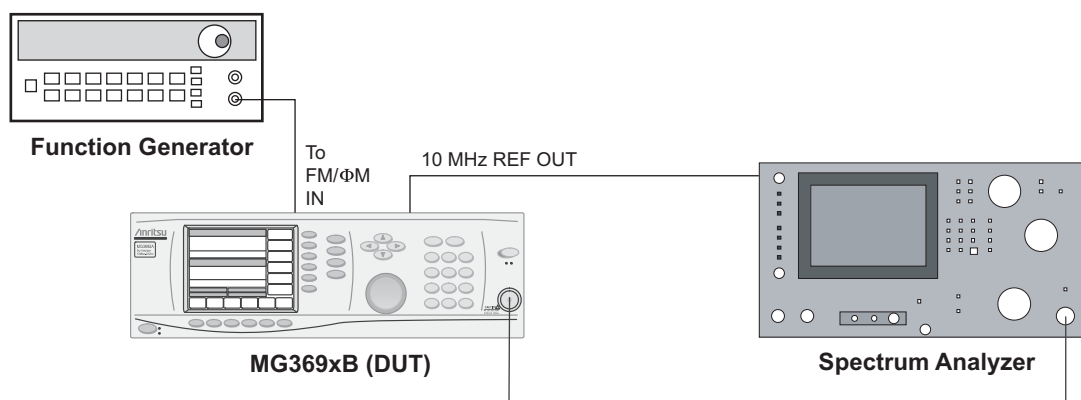

Figure 3-11. Equipment Setup for Frequency Modulation Tests
Connect the equipment, shown in Figure 3-11, as follows:
1. Set up the test equipment as shown in Figure 3-11.